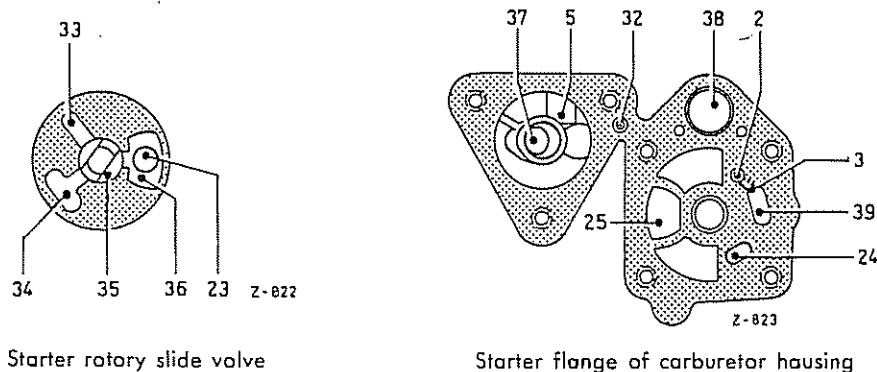

Fig. 07-0/2
The pre-mixture enters the chamber (33) of the starter rotary slide valve through the graded bore (2) of the fuel canal (4) (Figs. 07-0/1 and 07-0/2).